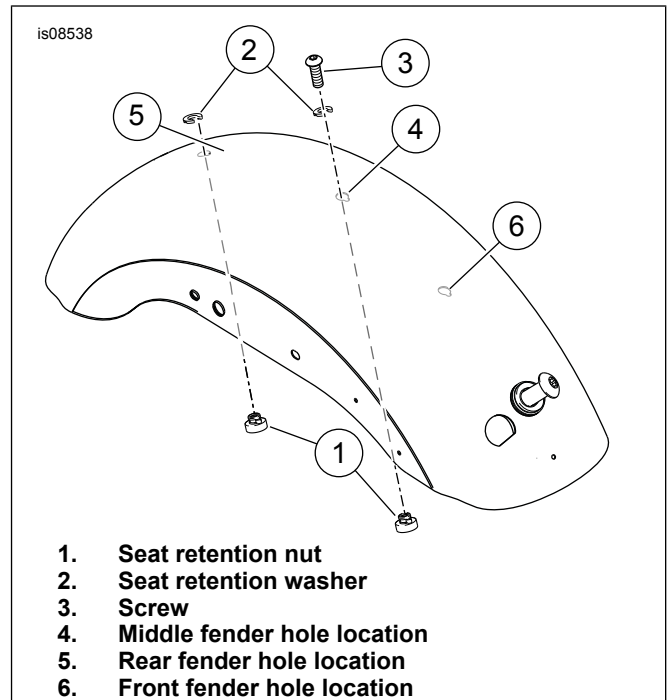
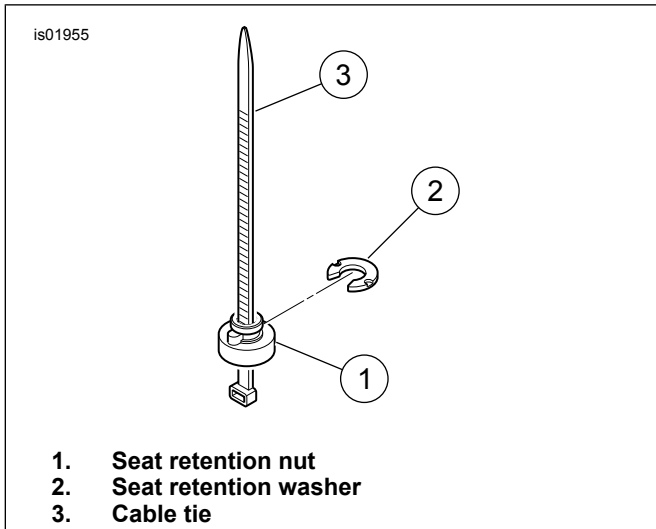
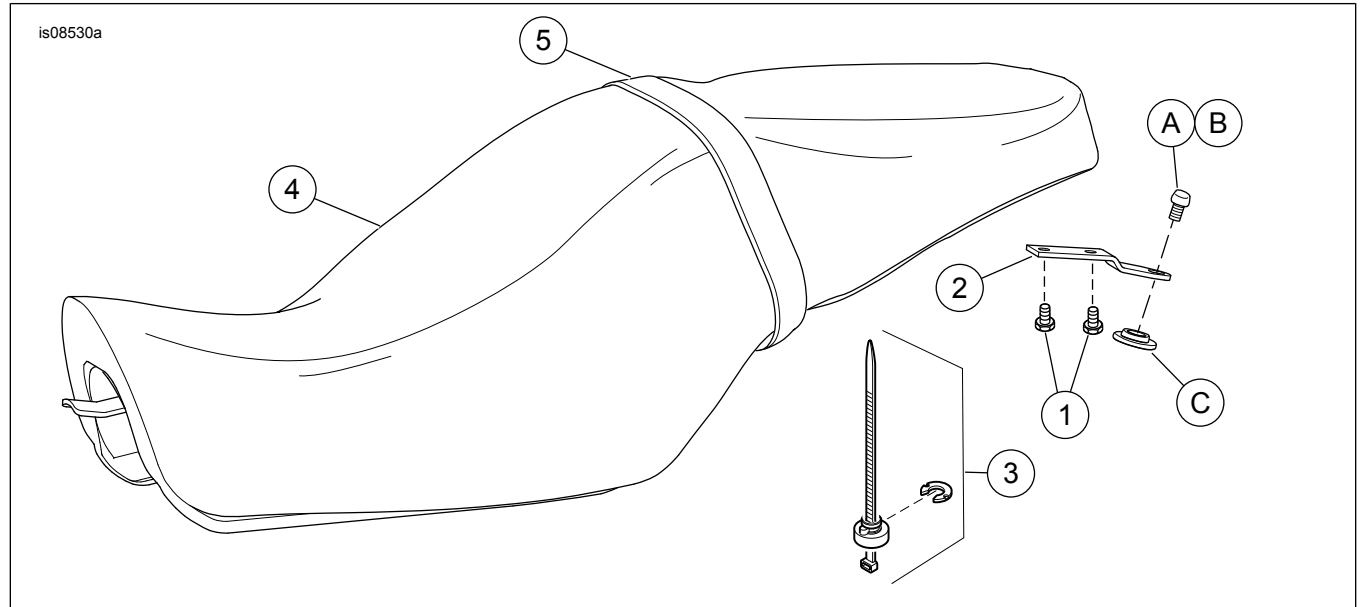

Figure 1. Seat Retention Nut and Washer Locations
Figure 2. Seat Retention Nut, Washer, and Tool
Figure 4. Service Parts: XL Seat
See Figure 4 and Table 1.
- a. **For XL 883N, XL 1200V and XL 1200X models:** See Figure 1 and Figure 4. Remove the screw (3) from the rear hole location (5). Save the screw for installation. Mount seat using guide washer (part number 7487) underneath seat mounting tab. Mount seat using existing screw (part number 3085) in rear screw hole. Tighten to 2.3–4.5 N·m (20–40 **in-lbs**).
- b. Mounting bracket (part number 5176-97A) may also be used. **For XL 883L models:** See Figure 1. Install seat retention kit in rear fender location (5). See Figure 2. A cable strap (3) can be used as an installation tool. Place the retention nut (1) over the cable strap. Position so the wide end of the nut rests on the eye of the cable strap. Thread the cable strap up under the fender and through the fender hole. Pull up on the cable strap to hold the nut snug against the underside of the fender. Mount seat using OE seat screw. Tighten to 2.3–4.5 N·m (20–40 **in-lbs**).
- a. See Figure 1. If retention nut is installed in middle hole (4). Mount seat using OE seat screw. Tighten to 2.3–4.5 N·m (20–40 **in-lbs**).
- b. See Figure 1. Install seat retention kit in middle fender location (4). See Figure 2. A cable strap (3) can be used as an installation tool. Place the retention nut (1) over the cable strap. Position so the wide end of the nut rests on the eye of the cable strap. Thread the cable strap up under the fender and through the fender hole. Pull up on the cable strap to hold the nut snug against the underside of the fender. Mount seat using OE seat screw. Tighten to 2.3–4.5 N·m (20–40 **in-lbs**).
4. See Figure 4. Install the seat mounting screw (A). Tighten to 2.3–4.5 N·m (20–40 **in-lbs**)